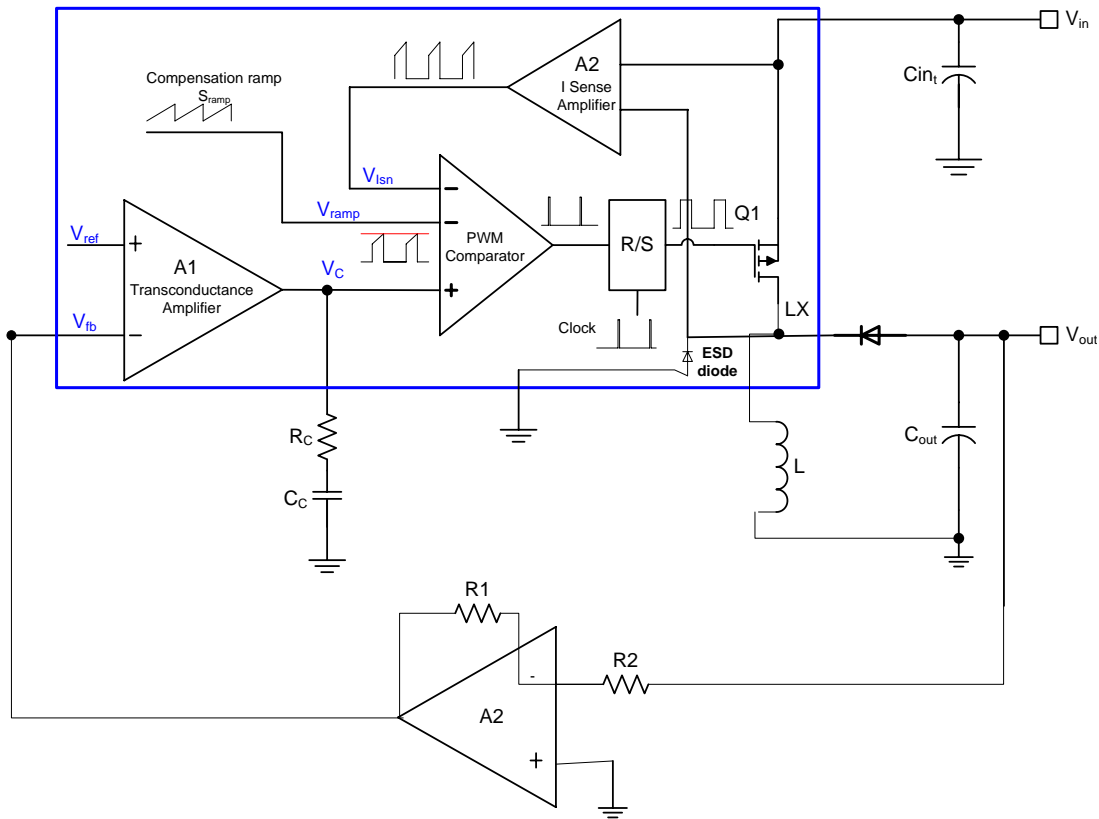

Figure 1: Buck-boost converter to generate negative voltage using EZBuck
The classic solution is to configure EZbuck as the buck-boost type converter. Figure 1 shows this configuration. Obviously, an extra error amplifier is needed to generate the positive feedback voltage. This error amplifier may not be very cheap because it requires low off-set voltage and large DC gain. Another issue of this implementation is the internal ESD diode between switching node (LX) and ground. To prevent damage of switching node caused by electrostatic discharge (ESD) during shipping or assembling, an internal ESD diode is connected between switching node and ground. With this ESD diode, when the switching node has large negative ESD spike, the additional energy can be discharged to the ground of IC and thus avoid the damage of switching node. When the EZBuck is configured as buck type converter, this ESD diode does not function since the switching node switches between V_{in} and ground. When the EZBuck is configured as buck-boost type, the ESD diode is actually forward biased due to negative output voltage and may be damaged by large forward biased current.